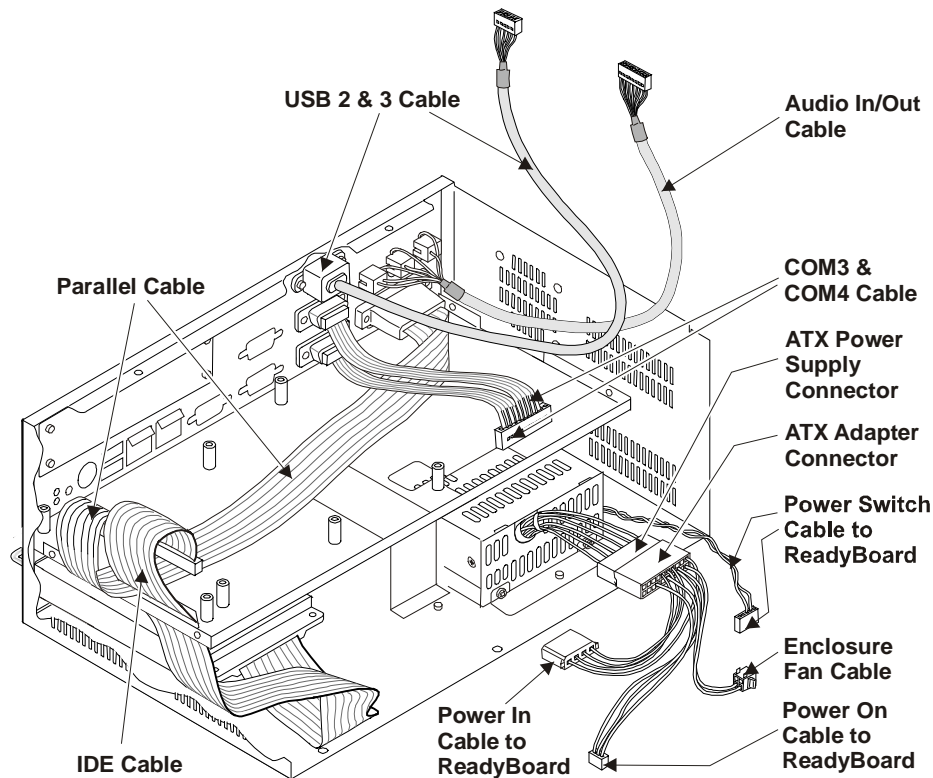

Figure 2-6. Internal Cables Shown Separated
7. Lay the free ends of cables aside and out of the way for re-assembly later. See Figure 2-6.
4. Move the internal cables out of the way to allow installation of the ReadyBoard. See Figure 2-6.